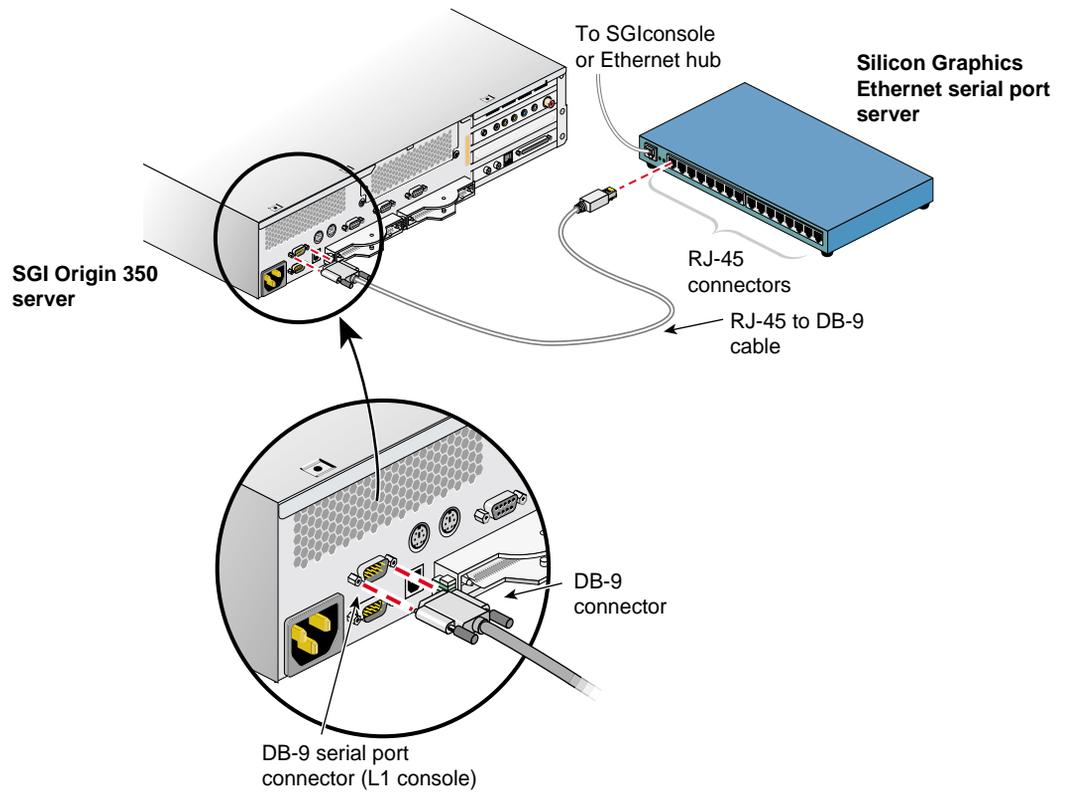

Figure 5-10 Connecting the Origin 350 Server Serial Port Connector to the Serial Port Server
6. Connect the RJ-45 connector end of the RJ-45 to DB-9 cable to one of the RJ-45 serial jacks on the Silicon Graphics EL-16 serial port server. Connect the DB-9 connector to the Origin 350 server's serial port jack labeled "Console." See Figure 5-10.
6. Connect the RJ-45 connector end of the RJ-45 to DB-9 cable to one of the RJ-45 serial jacks on the Silicon Graphics EL-16 serial port server. Connect the DB-9 connector to the Altix 350 server's serial port jack labeled "Console." See Figure 5-10.